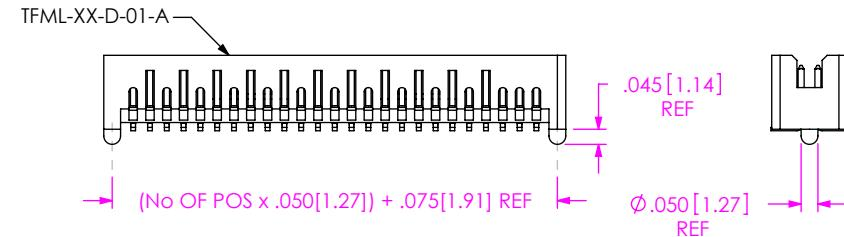

FIG 8
- SA: STAKED ALIGNMENT PIN (USE SM-A5) (SEE FIG 8, SHT 3)